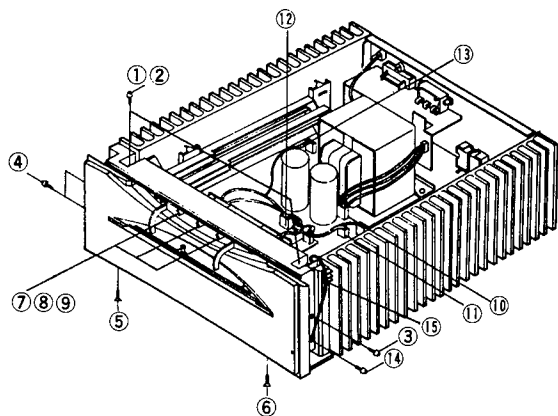

Fig. 6
1. Remove the rotary knobs ⑦ to ⑨ in Fig. 6
2. Remove connectors ⑩ to ⑬ in Fig. 6
3. Remove screw ⑭ and then unite the ground wire ⑮ in Fig. 6
4. Remove screws ① to ⑥ in Fig. 6, and then remove the front panel assembly by pulling it toward you gently.